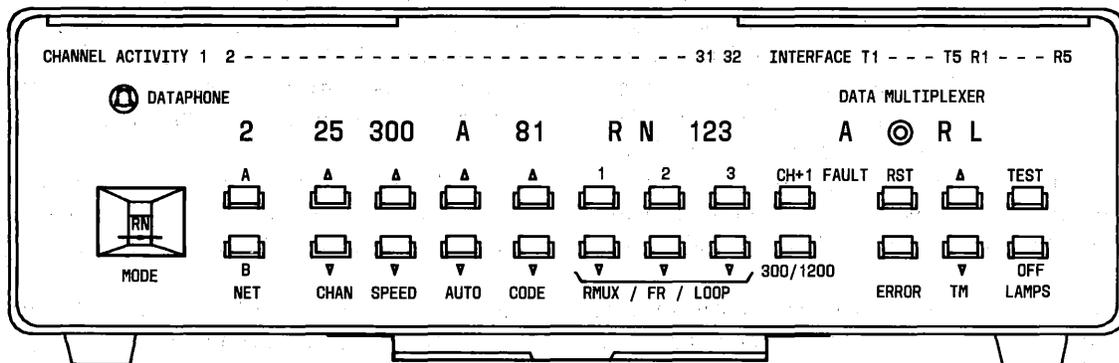

Fig. 2—1800B-LI Data Control Unit (RCU)
1.03 The 1800B-L1 RCU (Fig. 2) provides controls, testing, and monitoring functions for the DMS from a remotely located position. Controls are provided to make channel assignments and to activate loopbacks for testing. Indicators are provided which display fault indications, asynchronous channel activity, and the status of the interface leads for any selected asynchronous channel. Other indicators display the channel elements (speed, code, destination for a selected channel, and whether the autobaud feature is provided in that channel).
4.01 The RCU (Fig. 2) will be used by the MTF or the customer at a remote location to control the DMS. Alphanumeric readouts are provided to assist the customer in determining status of each button on the RCU.